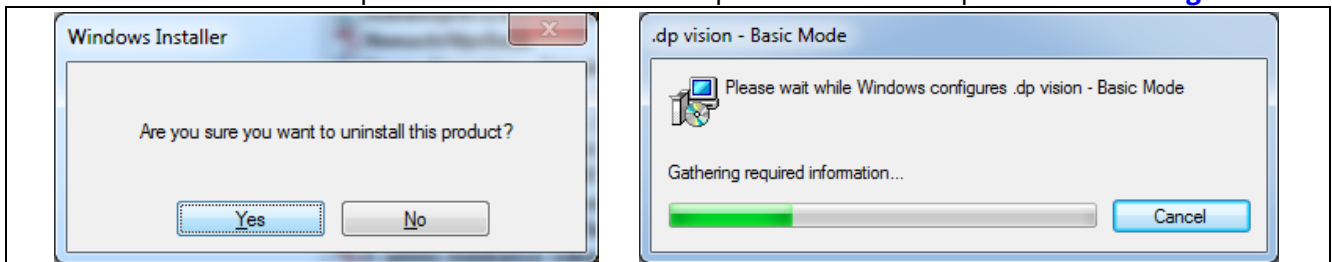

Figure 17 .dp Vision Complete Uninstallation Process
2. Double-click “Uninstall .dp Vision.lnk” to launch a complete uninstallation procedure – see **Figure 17**.